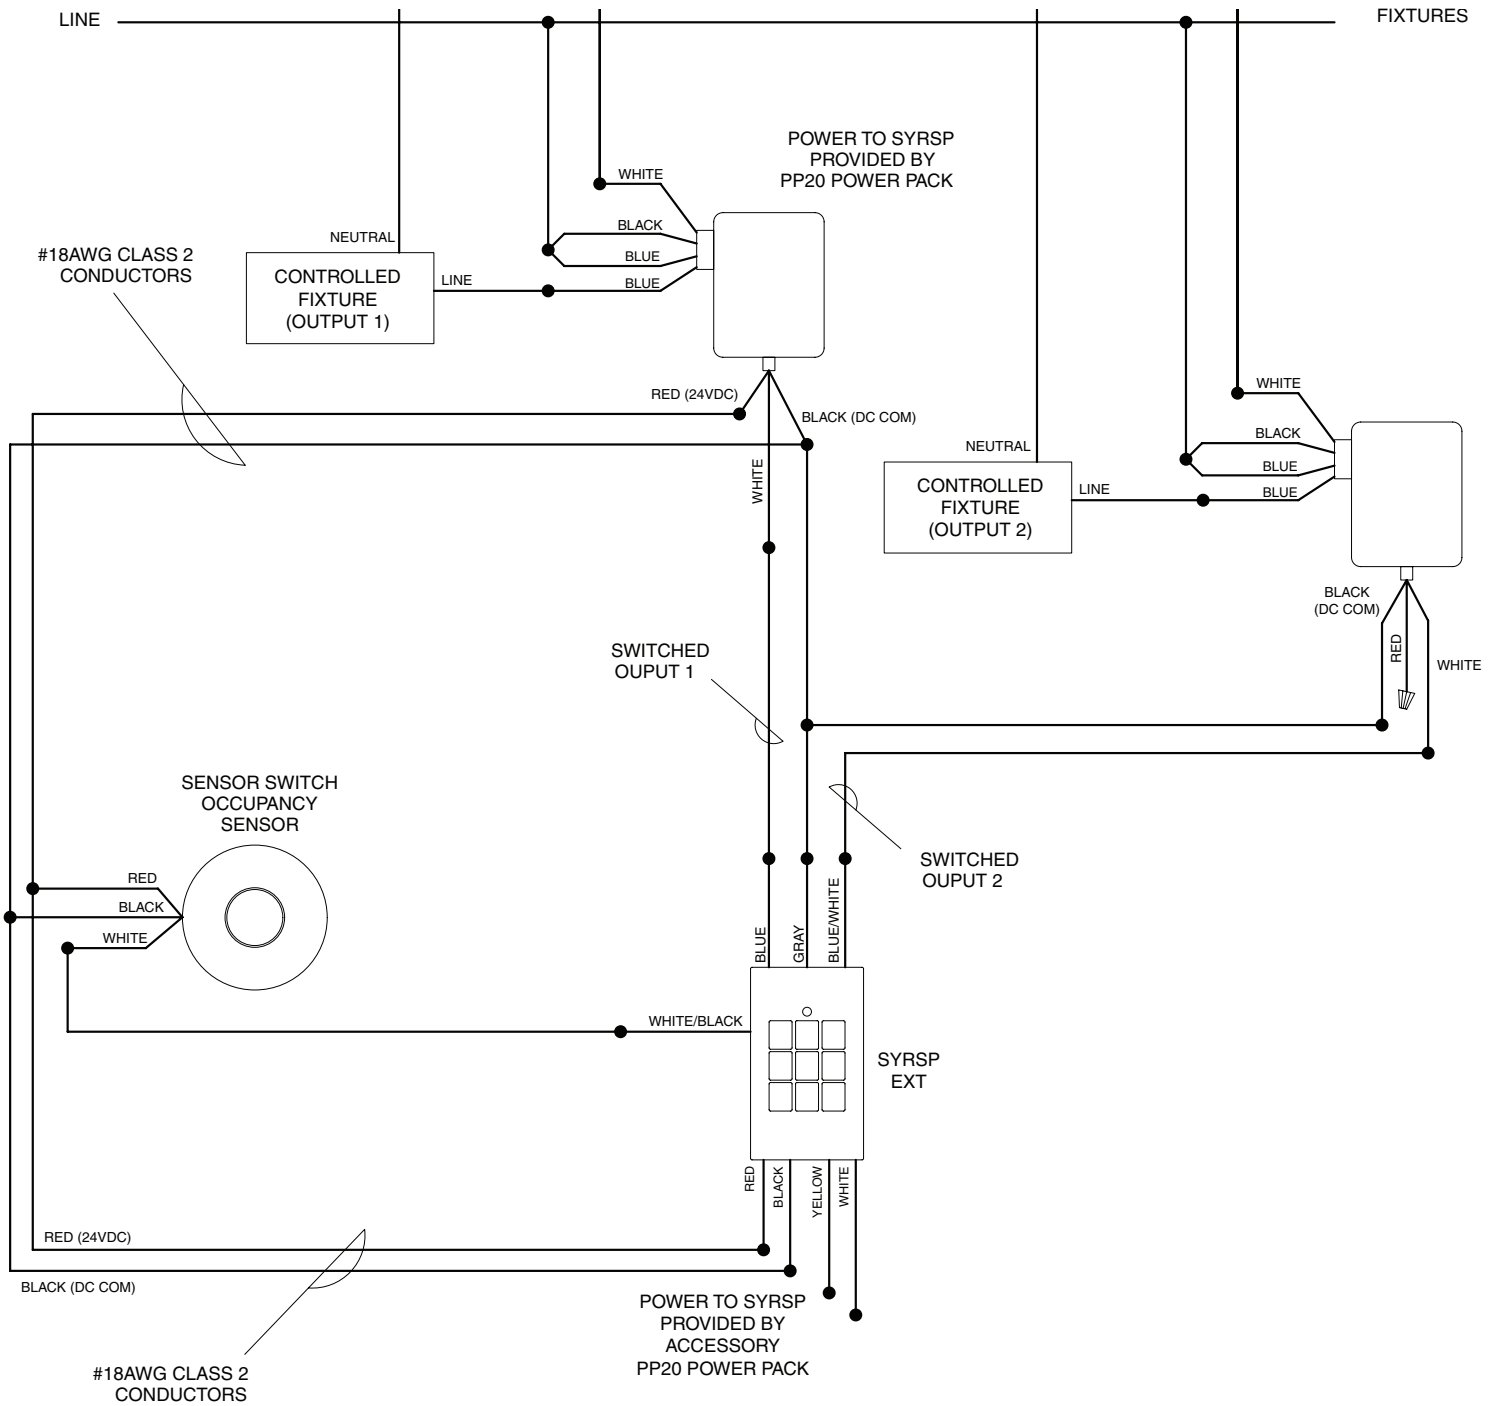

Figure 7 - SYRSP EXT Details - Occupancy Sensor and Dual Switching w/Power Packs
3. Connect auxillary devices as shown in *Figures 7 or 8*.
See Figures 7 and 8 for occupancy sensor wiring details.